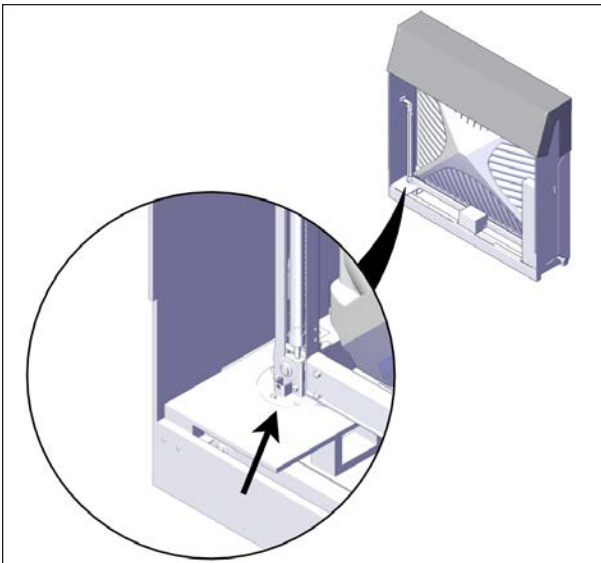

FIGURE 22: REMOVE BOTTOM LAG BOLTS ON JACKS
8. Reinstall the screws (2) on the operator cover.
9. Use the 3/8" (10 mm) socket wrench to unscrew the hexagonal 1/4" x 2" lag bolts on the bottom of both jacks. There are two lag bolts per jack see Figure 22.